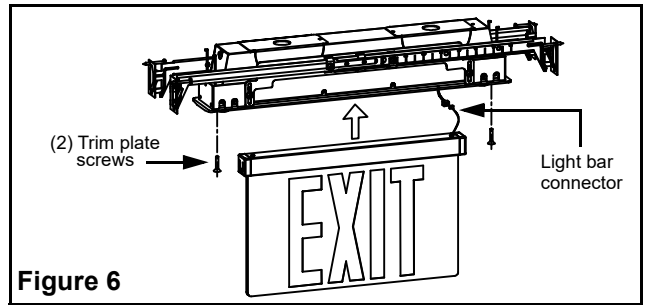

Figure 6
11. Screw the two M3\*15 screws into the bar hanger assembly (see fig.6).
12. Close trimplate and use the M3\*15 screws to ensure the trimplate will not detach from the housing assembly (see fig.6).